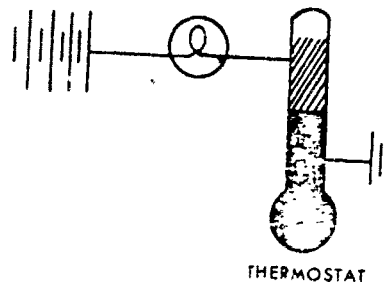

Figure 9.
Figure 9 shows a mercury thermostat that controls a light bulb. In this simple circuit, when the temperature is below some set value, the light will be off. Then as the temperature goes past the set value, the light will come on, because you now have provided a ground for the circuit.
3. In the basic circuit illustrated in figure 9, an increase in